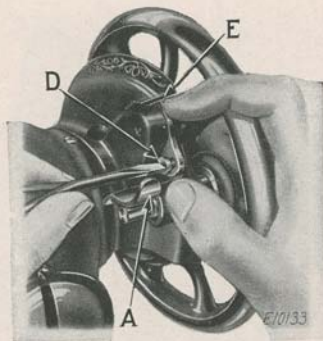

FIG. 6. ADJUSTMENT OF BOBBIN WINDER
If the pressure of the bobbin winder pulley against the hub of the balance wheel is insufficient for winding the bobbin, press down the bobbin winder until the latch (A, Fig. 6) drops down and holds it, then loosen the adjusting screw (D, Fig. 6). With the forefinger, push back the upper end of the slotted plate (E) as far as it will go, as shown in Fig. 6, and at the same time press the bobbin winder pulley against the hub of the balance wheel, then tighten the adjusting screw (D).